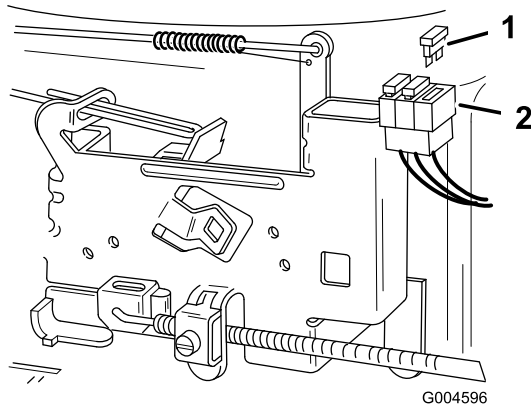

Figure 29
1. Pull up on the fuse (Figure 29) to remove it from the socket.